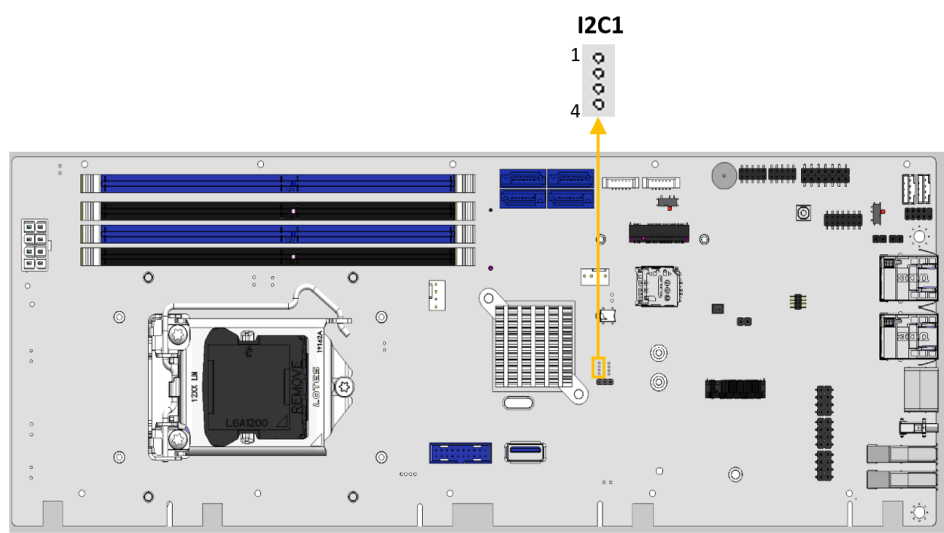

Figure 3-11: I²C Connector Location
- CN Location: See Figure 3-11